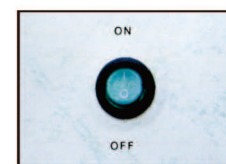

figure 1
2. Plug the power plug of the whitening meter into the applicable power socket and turn on the power box Power switch (ON). At this point, the screen of the main engine will light up, and display the previous shutdown Parameters. As shown in figure 1 below: